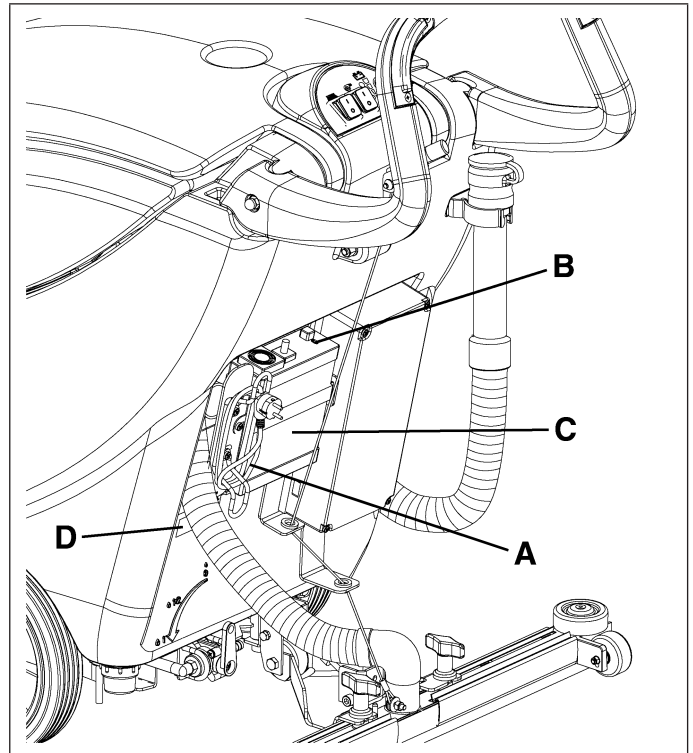

Figure 31
3. Make sure the battery charger cable is plugged into an electrical outlet that will provide voltage and frequency according to the serial number plate/technical data (D, Fig. 31).
When the battery charger is connected to the electrical outlet, all machine functions are automatically cut off. The green indicator light (B, Fig. 31) flashes when the battery charger is charging the batteries.
4. When the green indicator light (B, Fig. 31) stays on, the battery charging cycle is over.
5. When the battery charging cycle is over, disconnect the battery charger cable (A, Fig. 31) from the electrical outlet and wind it around its housing on the machine.
For further information about the operation of the battery charger (C, Fig. 31), see the relevant Manual.